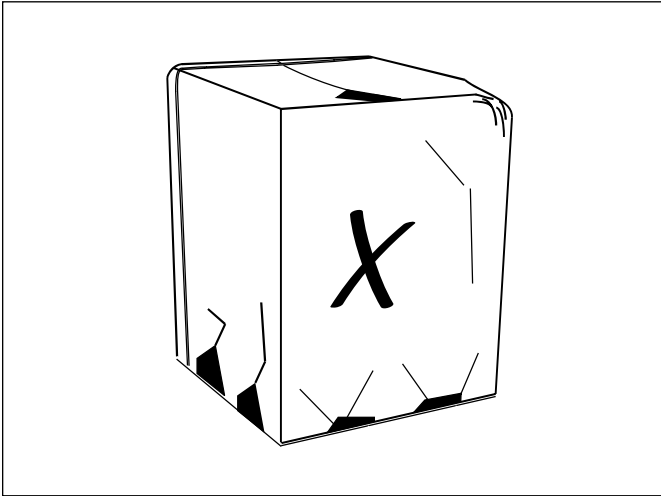

Figure 6
- Check for damage and report promptly to the carrier any damage found to the unit (Fig. 6).